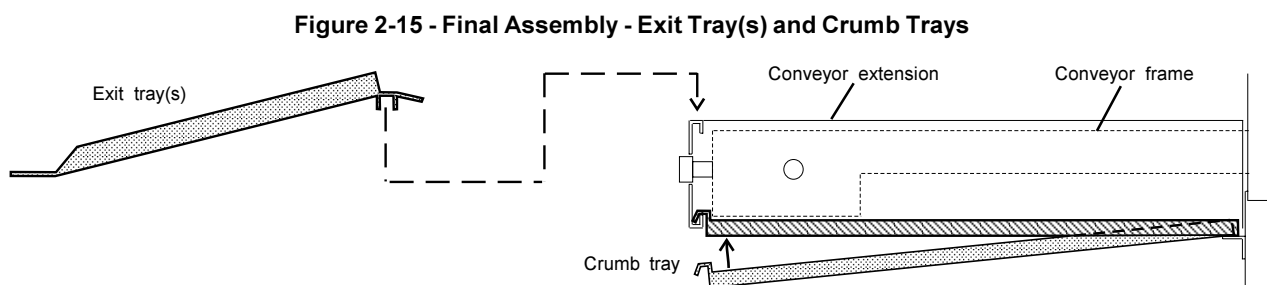

Figure 2-15 - Final Assembly - Exit Tray(s) and Crumb Trays
5. Attach the exit tray(s) at the drive (left) end of the conveyor. See Figure 2-15.
6. Install the crumb trays underneath the conveyor as shown in Figure 2-15. First, place the inside edge of the tray onto the bracket attached to the end plug. Then, swing the outside edge of the tray up and into place.